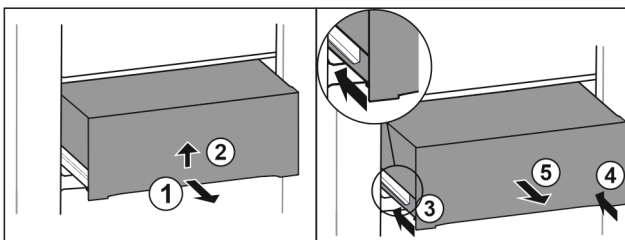

Fig. 33
- ▶ Pull out drawer half-way. Fig. 33 (1)
- ▶ Lift the drawer from the bottom. Fig. 33 (2)
- ▶ Insert left rail. Fig. 33 (3)
- ▶ Insert right rail. Fig. 33 (4)
- ▶ Remove drawer to the front. Fig. 33 (5)